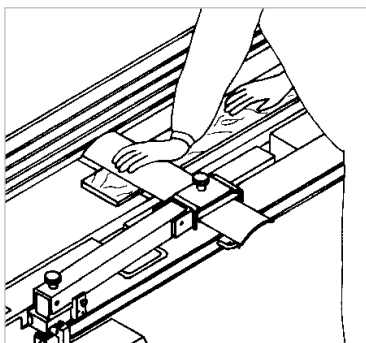
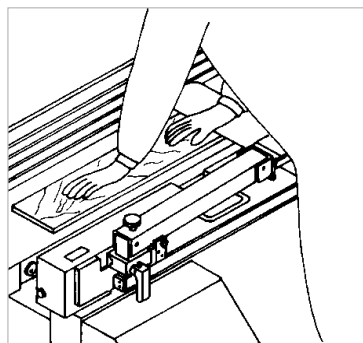

Figure 23: Planing up to 65 mm (1)
Figure 24: Planing up to 65 mm (2)
- Push the workpiece with both palms on the infeed table towards the cutter block by passing the hands one after the other over the bridge guard (⇒ Figure 23 / ⇒ Figure 24).